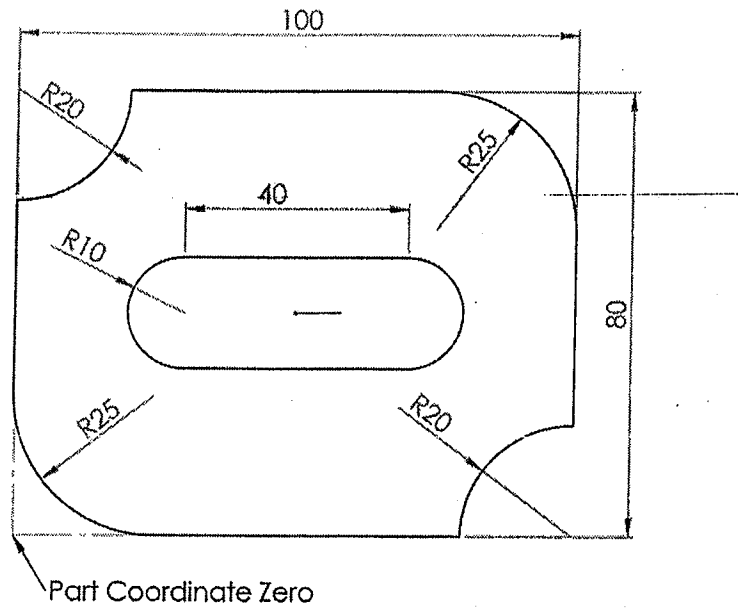

Figure 01
- b. Write the G-code program for the following part shown in figure 01 considering the points given below. (20 marks)